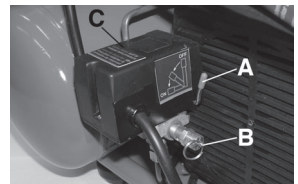

FIGURE 5
ON/AUTO OFF SWITCH (A) FIG.5. Turn this switch ON by lowering lever downwards to provide power to the automatic pressure switch and lift to turn compressor OFF.
PRESSURE SWITCH (C) FIG.5. The pressure switch automatically starts the motor when the tank pressure drops below the factory set "Cut-In" pressure. It also stops the motor when the air tank pressure reaches the factory set "Cut-Out" pressure.
SAFETY VALVE (B) FIG. 5. If the pressure switch does not shut off the air compressor at its "Cut-Out" pressure setting, the safety valve will protect against high pressure by "popping out" at its factory set pressure (slightly higher than the pressure switch "Cut-Out" setting).
9. Pull ring on safety valve (B) Fig. 5, allowing air to bleed from the tank until tank pressure is approximately 20 psi. Release safety valve ring.
NOTE: If drain valve is plugged, pull ring on safety valve (B) Fig. 5, and hold until air pressure has been released. The valve can then be removed, cleaned, and reinstalled.
4. Pull ring on safety valve (B) Fig. 5, allowing air to bleed from the tank, until tank pressure is approximately 20psi. Release safety valve ring.